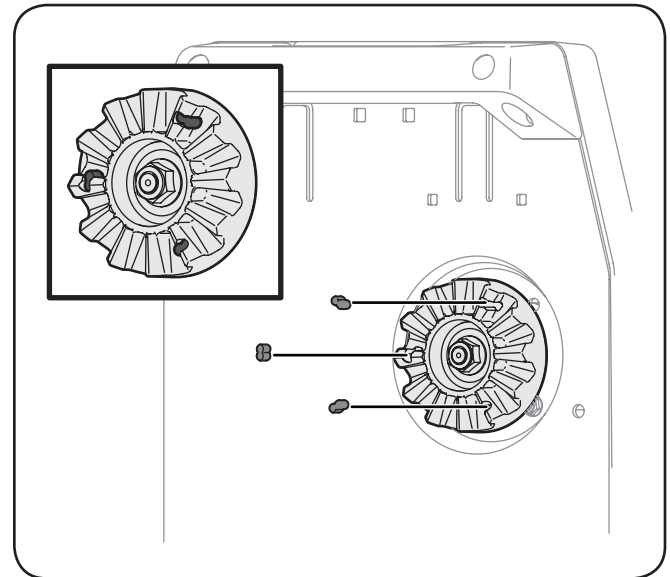

Figure 5-6
1. Gently pry each clutch bumper out of the dog clutch using a standard screw driver. See Figure 5-6.